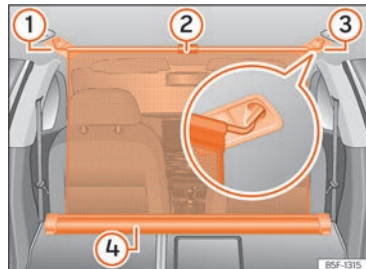

Fig. 142 In the luggage compartment: net partition hooked in place with the rear seat backs folded down. »
- Pull up handle »» Fig. 142 ② to remove the net from the casing »» Fig. 142 ④.
- Hook in the net partition on the right or left side »» Fig. 142 ③ (magnified image).
- Hook in the net partition into the housing on the other side »» Fig. 142 ① by pulling the rod.
The net partition is properly assembled when the T-shaped ends are firmly secured in the corresponding housings »» Fig. 142 ③ and ①.
- Roll up the net into the casing »» Fig. 142 ④ lowering it with your hand.